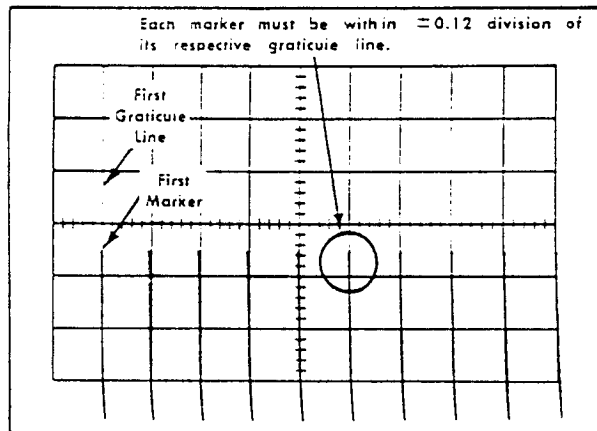

Fig. 6-47. Typical crt display when checking magnified linearity.
c. Check—Linearity of crt display between the first and ninth graticule lines is within tolerance of  $\pm 1.5\%$  ( $\pm 0.12$  division); see Fig. 6-47.